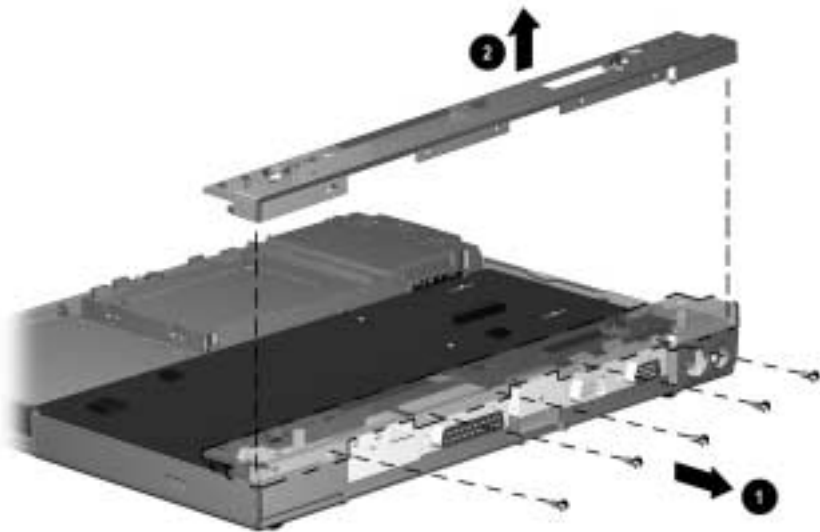

Figure 5-30. *Removing the Speaker Housing*
6. Remove the five screws securing the speaker housing to the base assembly **1** (Figure 5-30).